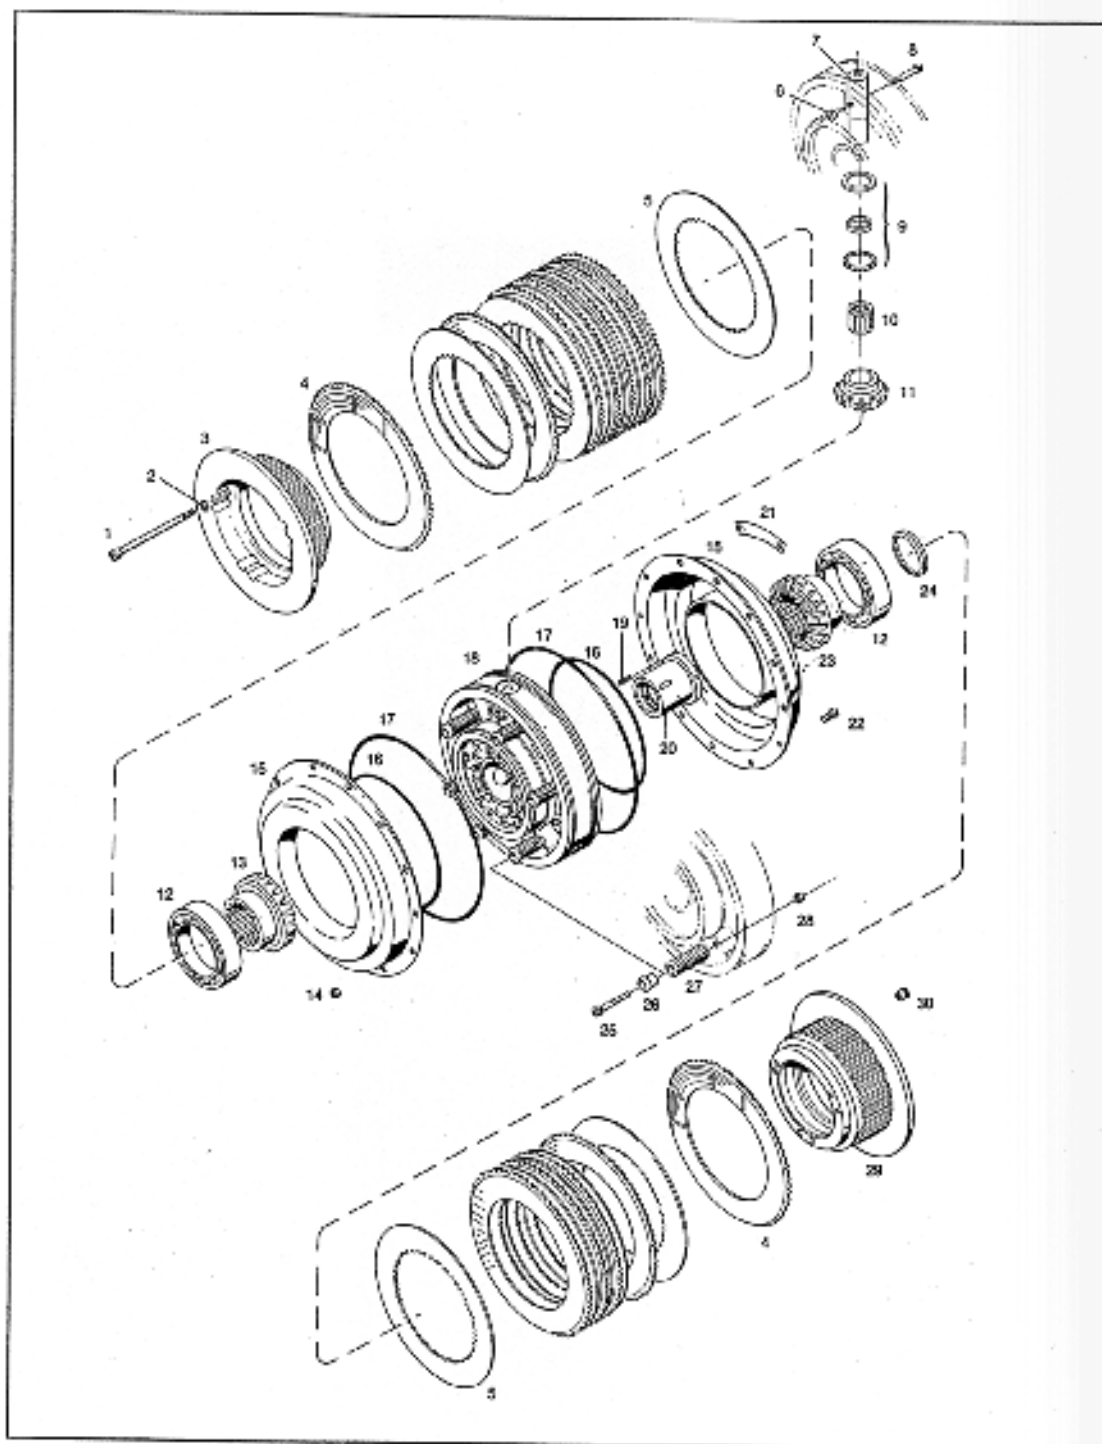

Figure 34. Clutch No. 1-00100-1300
8. Figure number and item number	fig. 34, item 4